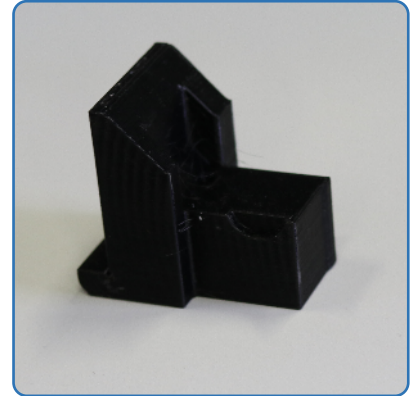

Figure 19: Remove the *Aligement Tool*
1. Carefully remove the Aligement Tool (Figure 19)